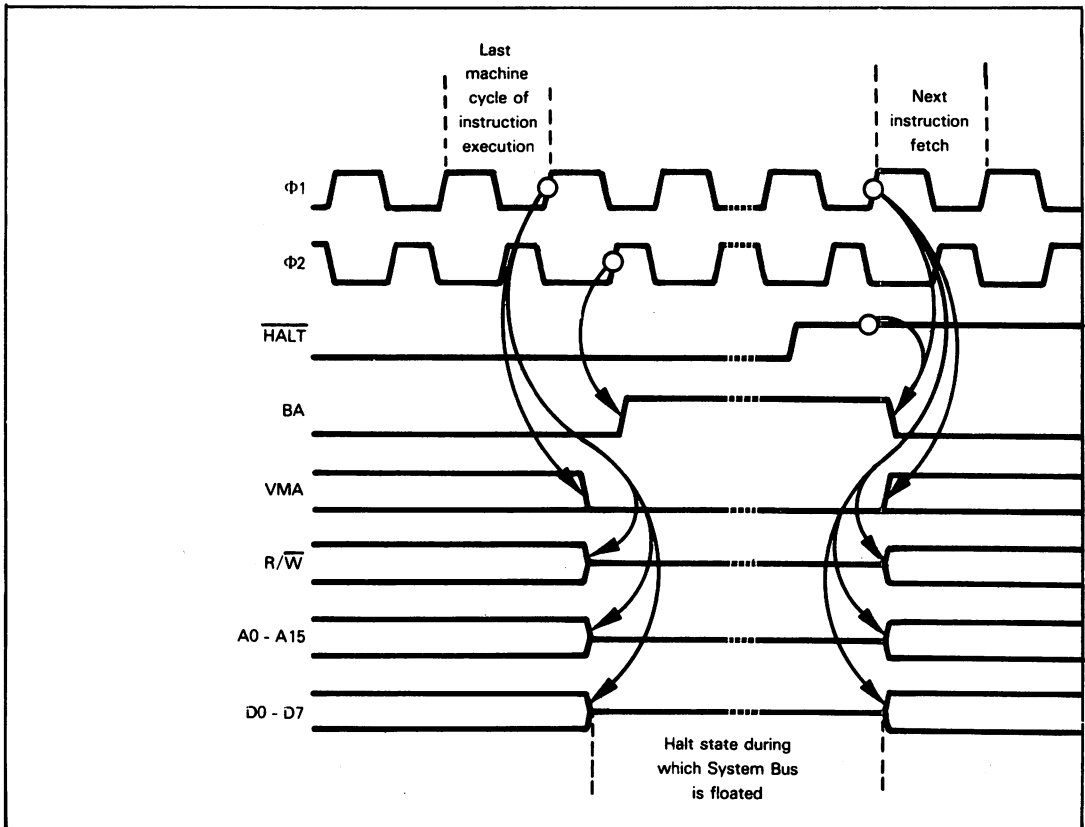

Figure 9-7. System Bus Floating During the Halt State
**The Halt state of the MC6800 is equivalent to the Hold state of the 8080A.** If a low  $\overline{\text{HALT}}$  is input to the MC6800, then upon conclusion of the current instruction's execution, the System Bus is floated. Timing is illustrated in Figure 9-7. Observe that the Bus Available signal, BA, is output high; VMA is output low. The Address and Data Busses, and the  $R/\overline{W}$  control are floated.